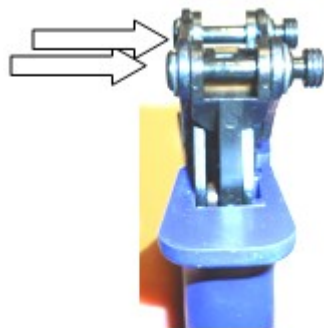
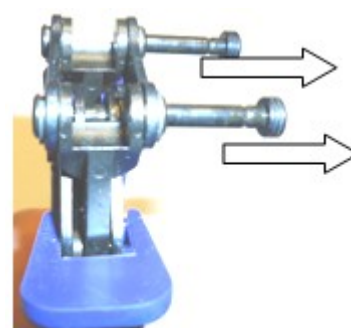

Figure 1
Figure 2
1. Push on both attachment pins from the front to disengage the locking feature of the pins, as shown in **Figure 1** above. Turn the tool around and manually pull out on each of the pin heads to fully retract the pins until each pin locks into the retracted position, as shown in **Figure 2** above.